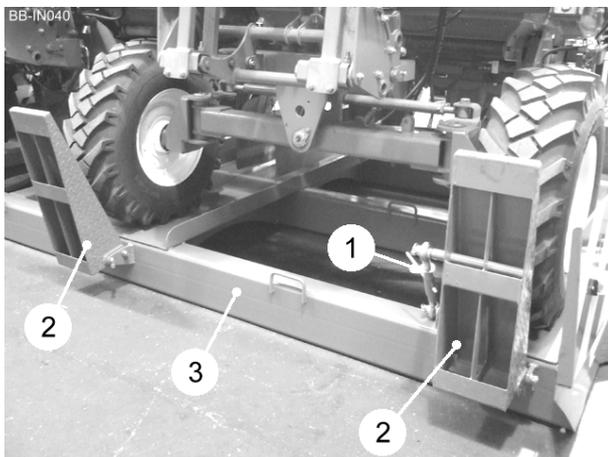
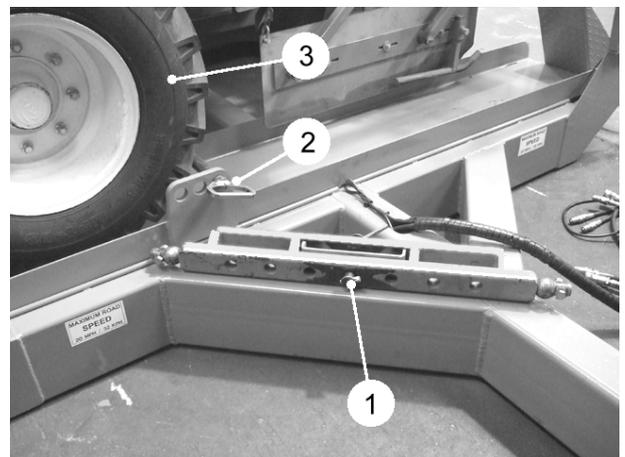

Fig 3
Fig 4
7. Attach the loading/unloading tow bar (item 1, fig 4) to the tractor lift arms.
9. Loosen the outer loading ramp adjustable links (item 1, fig 3) and remove the wheel lock-down pins (item 2, fig 4).
12. Finally, refit the wheel lock-down pins (item 2, fig 4) ready for loading.
1. Lower the loading ramps (item 2, fig 3) and unloading ramps (item 1, fig 2).
2. Attach the loading/unloading tow bar (item 1, fig 4) to the tractor lift arms.
4. Approaching at a right angle from the RH side of the trailer, align the tractor wheels and planter wheels with the loading ramps (item 2, fig 3).
5. Raise the front of the planter slightly to allow the openers to clear the trailer side beam (item 3, fig 3).
6. Drive the tractor and planter over the trailer until the outer planter wheels (item 3, fig 4) touch the lock-down pins (item 2, fig 4).
7. Raise the two outer loading ramps (item 2, fig 3) and secure with the adjustable links (item 1, fig 3).
8. Adjust the links (item 1, fig 3) to prevent the planter wheels from rolling backward or forwards.
13. Raise the loading ramps (item 2, fig 3) and unloading ramps (item 1, fig 2) and secure with the locking pins and 'R' Clips.